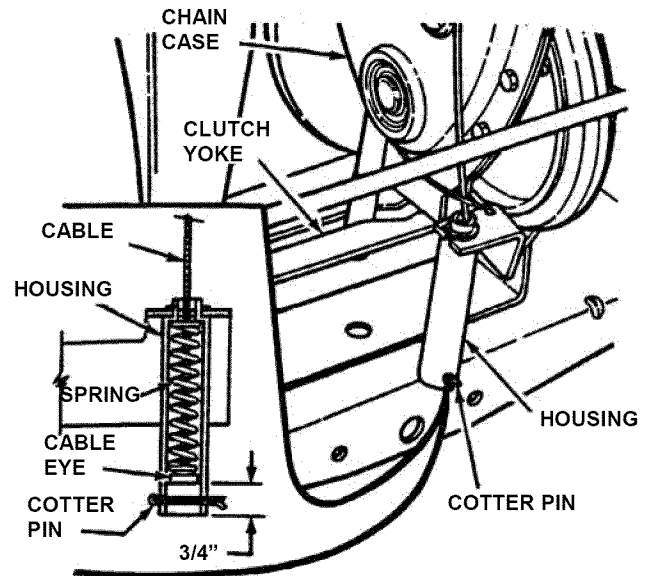

FIGURE 4.9
5. Measure the distance between end of clutch/brake cable and bottom of housing. Measurement should be 3/4". See inset of Figure 4.9.
7. Adjust cable up or down using the jam-nuts to obtain a distance of 3/4" between end of clutch/brake cable and bottom of housing. See Figure 4.9.
5. Move transmission shift lever to the neutral (N) position.
6. Rotate clutch yoke (clutch yoke shown in Figure 4.9) out with your hand and work belt between drive disc and rubber driven disc.